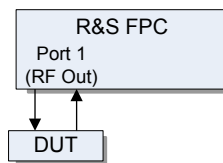

Figure 16-2: Setup of a reflection S11 measurement
1. Connect the DUT to the R&S FPC as shown in Figure 16-2.